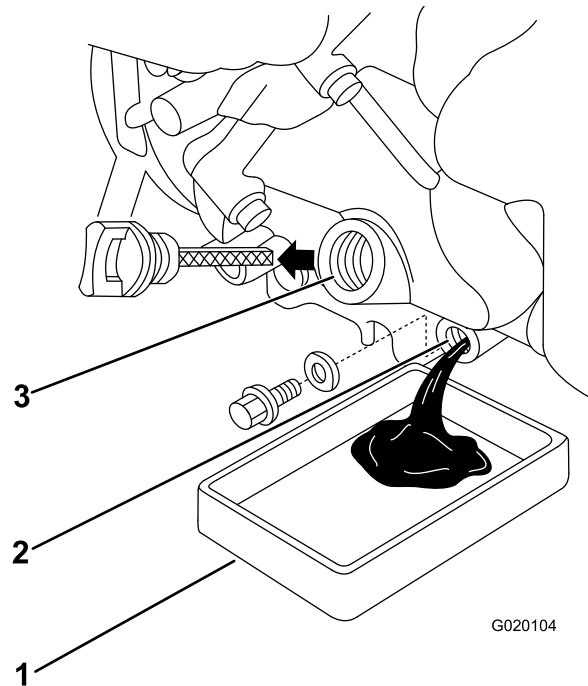

Figure 22
2. Have a funnel ready to place under the oil drain plug, remove the plug and place the funnel under the plug to guide the oil into a container (Figure 22).